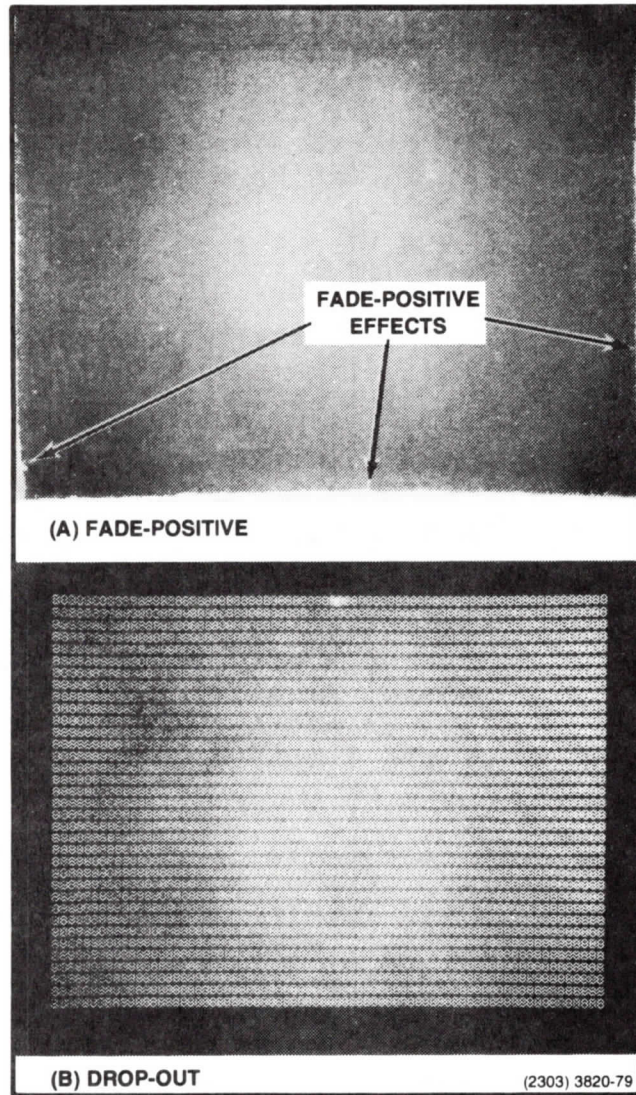

Figure 10-23. Dropout and Fade-Positive Display Effects.
3. Ideally, the Hard Copy pattern should not have any breaks. However, if breaks occur, increase the OP LEVEL adjustment or the NORMAL INTENSITY adjustment or both in 5 V increments and repeat the Hard Copy pattern until the minimum number of breaks is seen. See Figure 10-23 for an example of dropout.